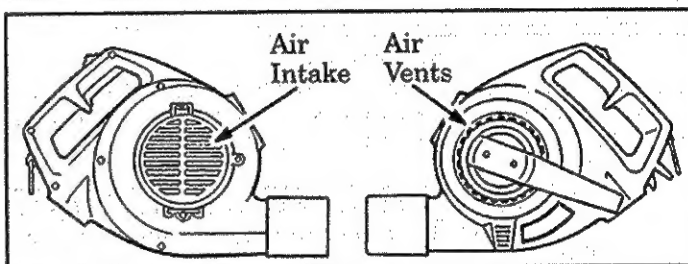

Figure 10
1. **Keep the air intake clean and air vents free of debris** to avoid overheating the motor. Figure 10. Do not allow foreign objects to enter the fan area.